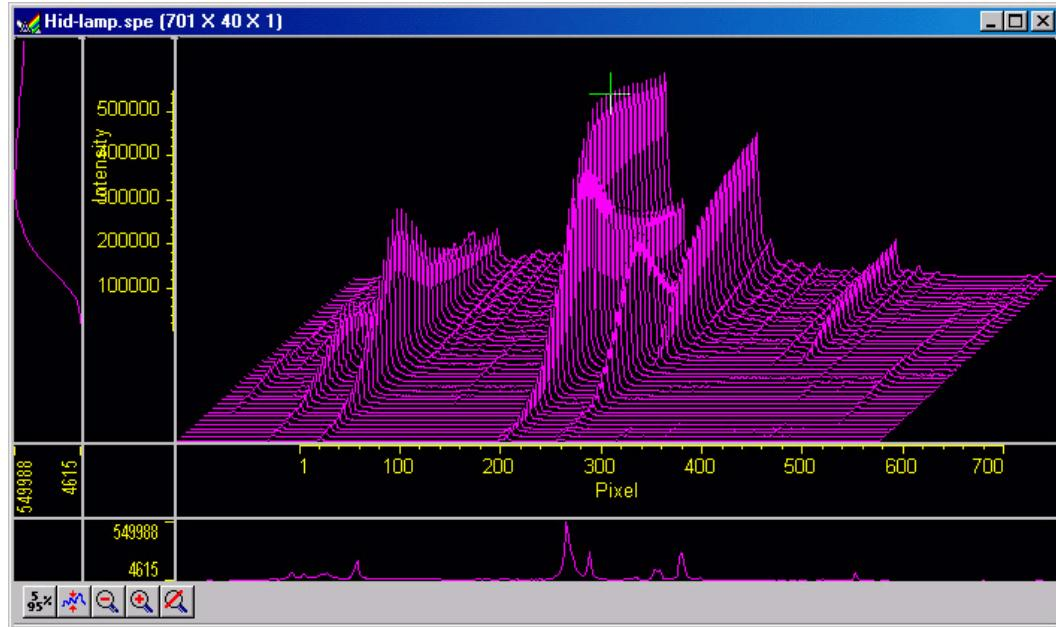

Figure 78. Hid-lamp.spe 3-D Graph
6. Click on **OK**. The Display Layout dialog box will close and the data display, exclusive of the intensity profiles, should appear as shown in Figure 78. Each strip is displayed as a plot of intensity vs. pixel number. The first strip is at the front and the last strip is at the back. Initially the cursor will be at the lower left. Use the up arrow key to move to a higher numbered strip and the right arrow key to move to a higher numbered pixel on the strip. Then click the Intensity Autoscale key to scale the
8. Note the cross sectional displays in Figure 78. The vertical cross-section profiles the intensity at the same point on each successive strip. The horizontal cross-section profiles the intensity at each point on the same strip. If the large cursor is selected, cursor projections will intersect the cross section to show indicate the cursor position. These projections may not be visually aligned with the cursor position on the main plot. This effect will be particularly noticeable with a long Z axis. Because of perspective effects, the higher numbered strips will be further away and visually smaller. The axes automatically adjust so that they read true for the strip on which the cursor is located. However, because the cross-section profiles expand to use all of the available space, they will not be in alignment visually with the cursor. The profile shapes will be correct, and the point on the profiles intersected by the large cross-hair extensions will accurately indicate the cursor position. Also, the information box will accurately report the pixel number and intensity at the cursor position.